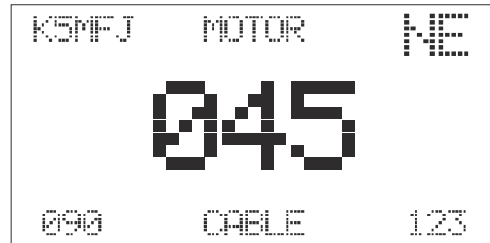

Figure 4 LCD Display
- The DCU-3 display should look similar to the display shown in Figure 4. The numeric display in the center indicates the current bearing of your rotator. The numeric display in the lower right corner indicates the target bearing that is manually set. The numeric display in the lower left indicates target bearing that is computer set. The character display in the upper right corner indicates the compass heading in "NESW" format. The alphanumeric display in the upper left corner is where the call sign is displayed if programmed. If the center display reads a steady "999", disconnect your control cable and check the cable wiring with an ohmmeter. See the section "Checking the Rotator Resistances from the Ground". Proceed if the cable checks OK. 999 also indicates that the cable may not be not plugged in or the right stop has not been set.